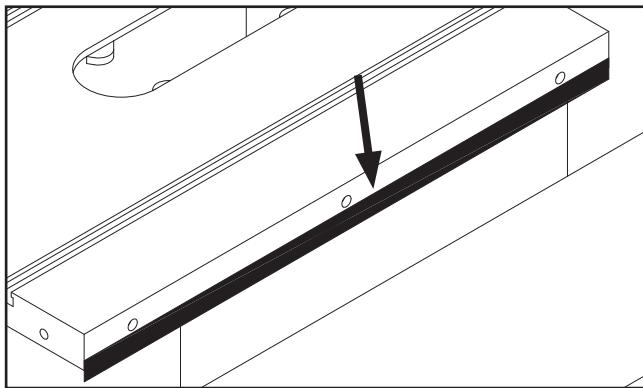

Figure 14. Masking tape location for tilting the extension table up.
- If the outside end of the extension wing tilts down, use a strip of masking tape along the bottom edge of the main table to shim the extension wing up (see **Figure 14**).